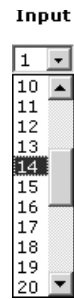

Figure 6-12 — Input selection drop box
1. Click the Input drop box. A drop down scroll box appears (figure 6-12).